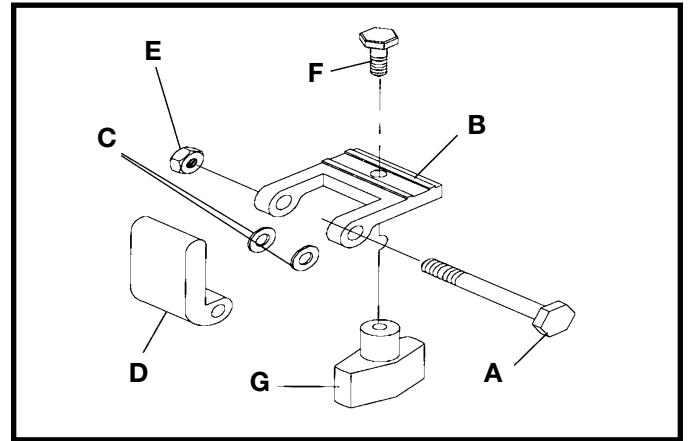

Fig. 81
1. Insert 1/4-20x2" bolt (A) through hole into one side of bracket (B) Fig. 81.
2. Place one washer (C), on bolt (A), and slide bolt through flip stop (D) Fig. 81.
3. Place the other washer (C), on bolt (A), and slide bolt (A) through other side of bracket (B) Fig. 81.
4. Screw nut (E) onto bolt (A) and tighten.
5. Insert bolt (F) through bracket (B) as shown and screw knob (G) onto bolt (F) approximately 3 complete turns. Fig. 81.